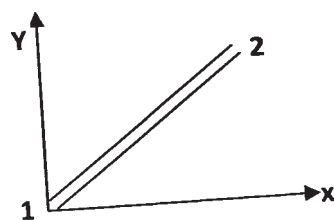

Fig.4
- b) Assemble the stiffness matrix for the member of plane frame shown in fig. 4., if it is oriented at angle 30° to the x axis. Take $E=200 \text{ GPa}$, $I = 4 \times 10^{-6} \text{ m}^4$ and $A = 4 \times 10^{-3} \text{ m}^2$ and length of frame member $L = 5\text{m}$. [8]